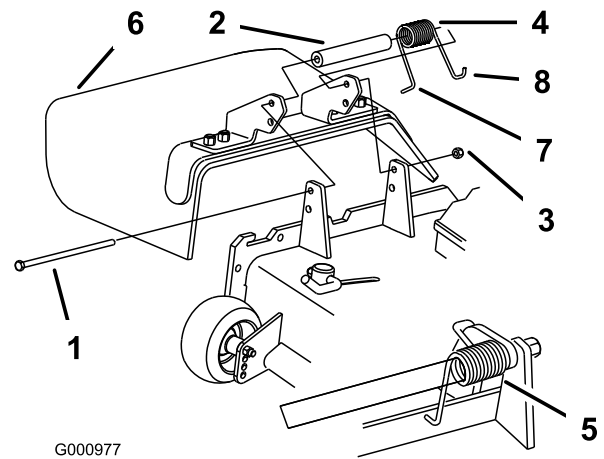

Figure 38
1. Remove the locknut, bolt, spring and spacer holding the deflector to the pivot brackets (Figure 38). Remove the damaged or worn grass deflector.
Note: Make sure the **L** end of the spring is installed behind the deck edge before installing the bolt as shown in Figure 38.
3. Install the bolt and nut. Place the **J** hook end of the spring around the grass deflector (Figure 38).